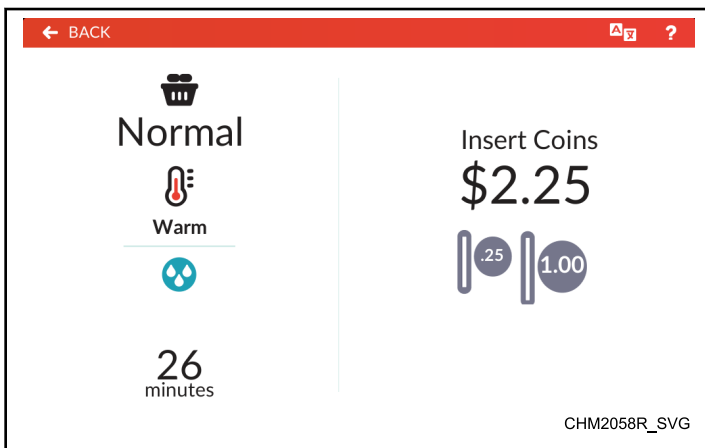

Figure 27
- The Payment Menu shows the cycle selection summary and vend price total (refer to *Figure 27*). Once the total vend price is entered, the vend price total changes to show START.